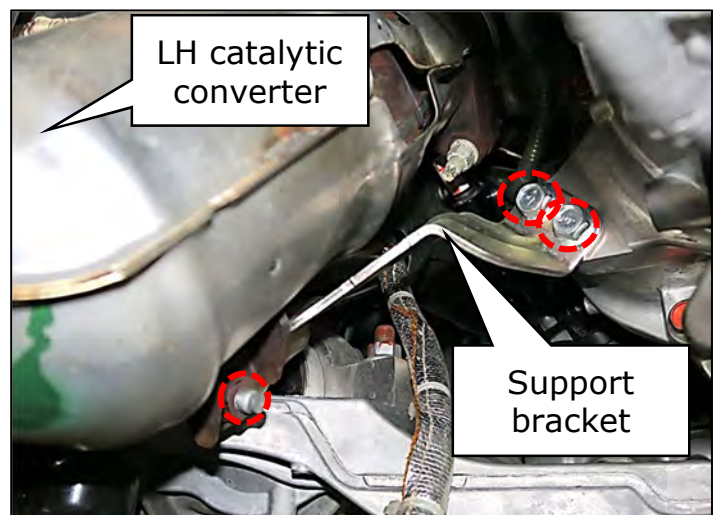

Figure 95
94. Install the LH catalytic converter support bracket. (Figure 95)